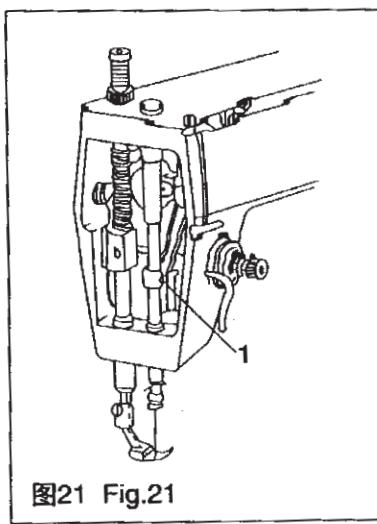

图21 Fig.21
(1) 旋松旋梭的三个固定螺钉；
(2) 转动上轮，使机针下降到最低位置后上升中厚料2.2毫米，厚料2.8毫米；
(3) 转动旋梭，使勾线尖到达机针的中线处；
(4) 松开针杆连接轴紧固螺钉“1”（图 21）；
(5) 调整针杆的高度，使旋梭勾线尖高于机针孔上边2毫米；最后将全部紧固螺钉旋紧。
- (1) Loosen the three set screw of rotary hook.
- (2) Turn balance wheel to lower than the needle in the lowest position and then raise it 2.2mm for medium material, and 2.8mm for heavy one.
- (3) Turn the rotary hook to make the looping point on the position of the midline of needle.
- (4) Loosen the set screw of needle bar link shaft (Fig. 21)
- (5) Regulate the height of needle bar to make the looping point 2mm higher than the hole of needle.